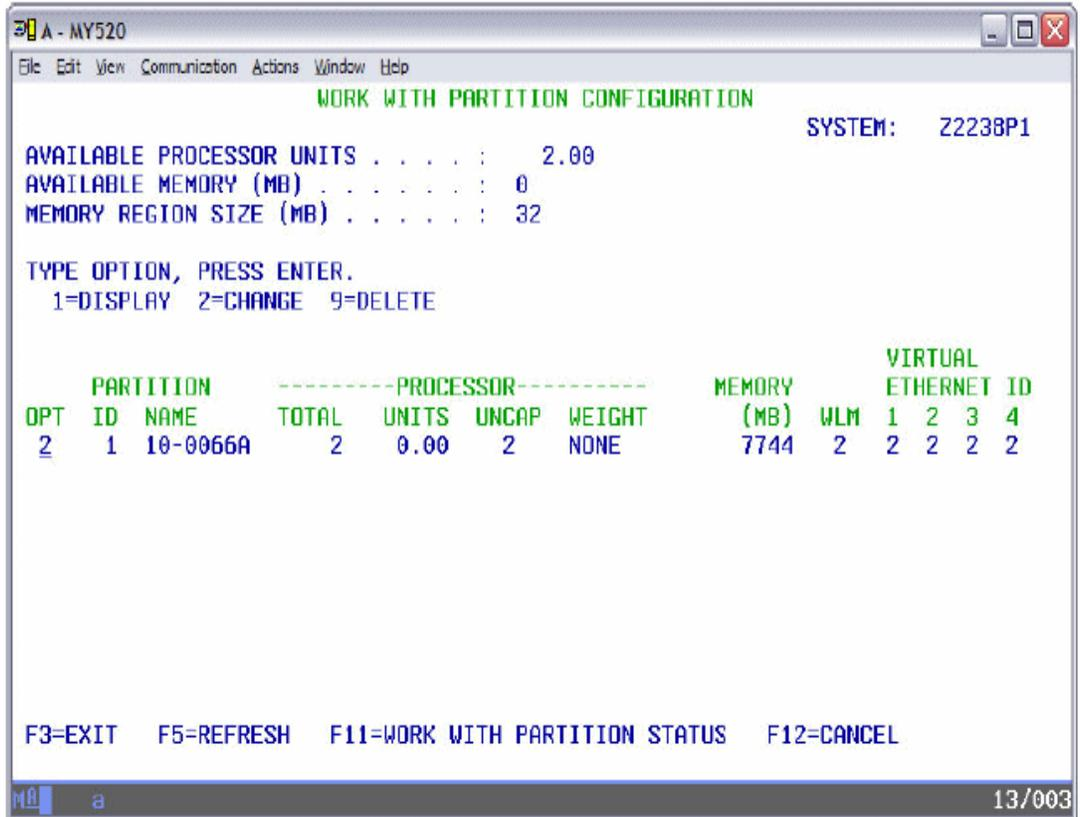

Figure 13-7 Work with Partition Configuration
6. From the Work with Partition Configuration menu, select option **2. Change partition configuration** for your i5/OS instance as shown in Figure 13-7.